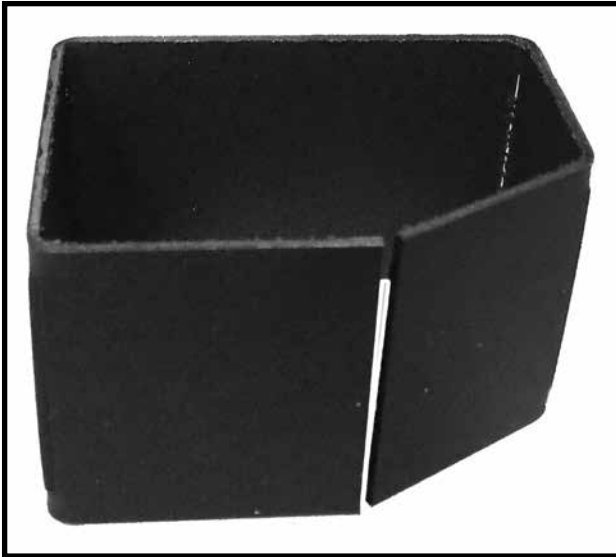
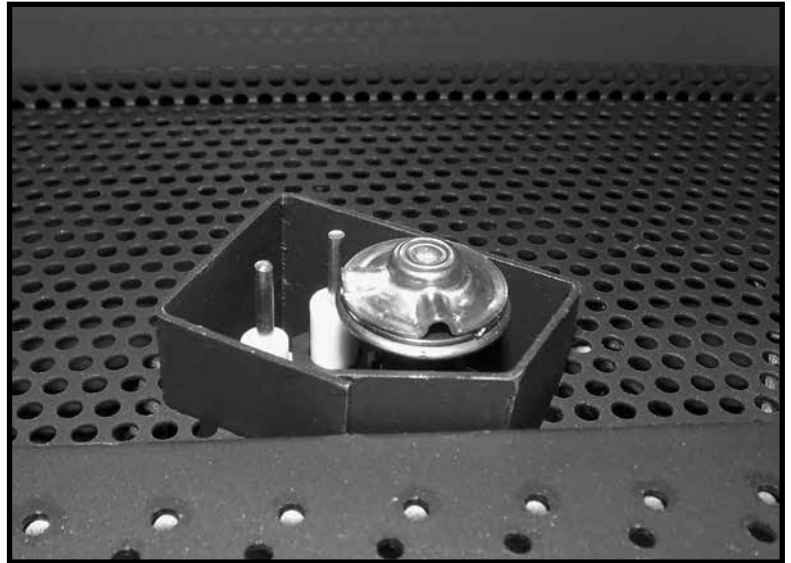

Figure 51: Pilot assembly shield.
Figure 52: Pilot assembly shield installed.
- Place the pilot shield (Figure 51) over the pilot assembly and into the cut out of the glass media tray (Figure 52). Be sure to push the shield down far enough so that the pilot flame is able to reach the burner without being impeded by the shield wall itself.